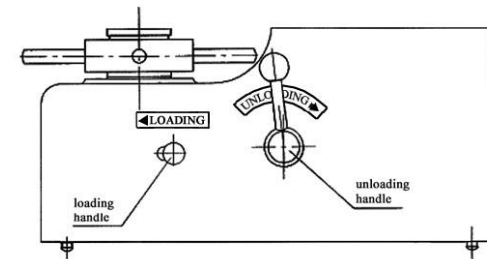
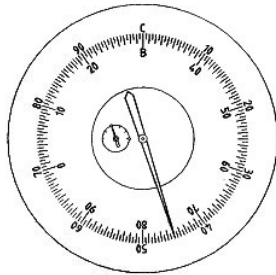

Figure 9
Figure 15
- a. Make sure that the unloading handle (20) is at the position of unloading. Otherwise, turn it to unloading position slowly (2 to 3 seconds or so) as per the unloading direction shown on the unloading label (see Fig 9).
Note: When changing the test force, the unloading handle must be at the unloading position (see Fig 9, i.e. at the limit position on the right hand). Otherwise it will cause damage to the hardness tester.
- d. Pull the loading handle leftwards to apply main test force on the indenter (see Fig 9).
2.5 After the longer pointer stops rotating obviously, remove the main test force by pushing slowly (2 to 3 seconds) the unloading handle clockwise to the right-handed limit (see Fig 9). Get the readings from corresponding scales on the indication dial gauge. For diamond indenter, read from the black digits at the outer ring. As for steel ball indenter, read from the red digits at the inner ring. The hardness value for this example shall be 45 HRC (see Fig 15 ). Turn the hand wheel to let the specimen down until the surface being tested is separated from the indenter. Move the specimen